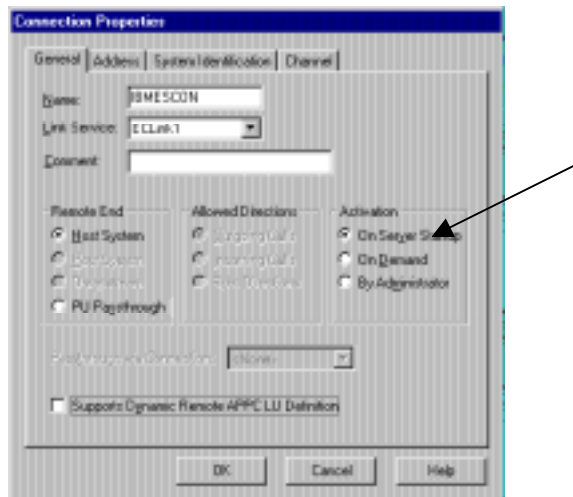

Figure 15-22. Activate at Startup
4. Verify the activation setting for the connection (Figure 15-22). ESCON connections should be set to activate on server startup. They should never be set to activate on demand.